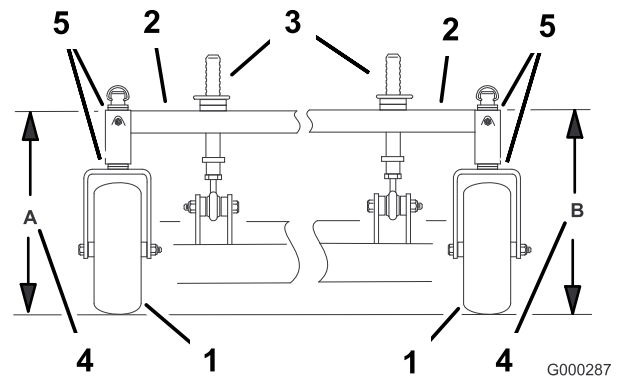

Figure 63
4. Measure carrier frame height at location **A** (Figure 63).
5. Measure carrier frame height at location **B** (Figure 63).